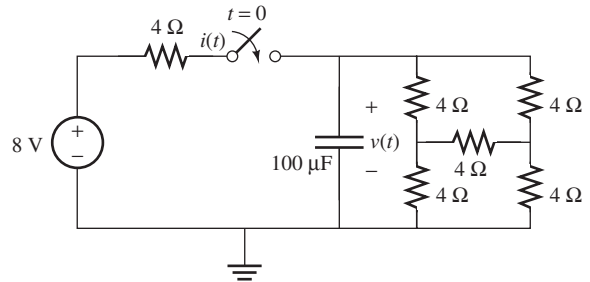

FIGURE P5.58 Circuit for Problem 5.58.
- 5.58 (A) Consider the circuit shown in Figure P5.58. The switch closes at $t = 0$, find $v(0^+)$, $i(0^+)$, and $v(\infty)$ using PSpice.